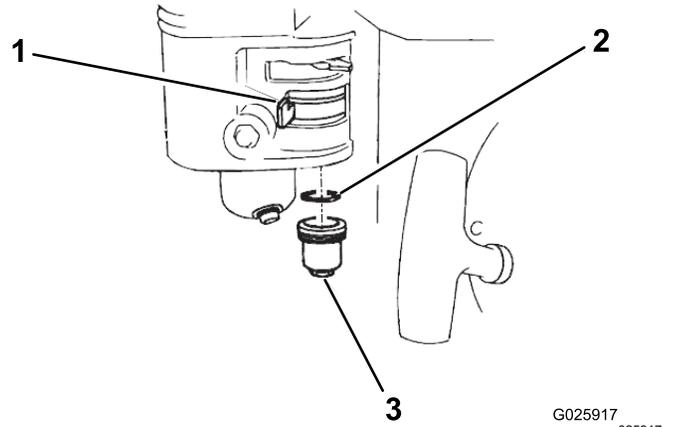

Figure 47
- Move the fuel-shutoff valve to the OFF position (Figure 47).
- Remove the fuel sediment cup and O-ring (Figure 47).
- Place the O-ring in the fuel-shutoff valve and install the sediment cup (Figure 47). Tighten the sediment cup securely.